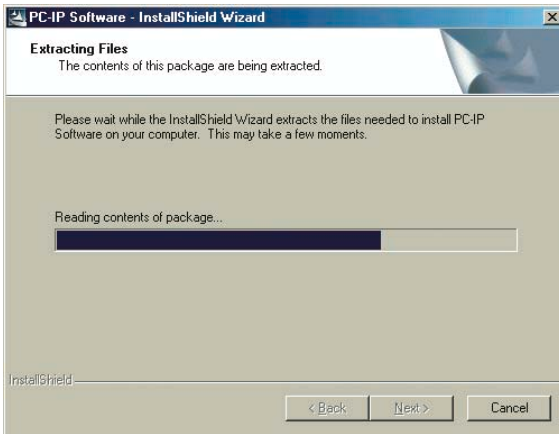

Figure 2-3
- The initial process is to check the PC for existing copies of PC-IP and to begin extracting files, the screen (Figure 2-3) will be displayed during this process.